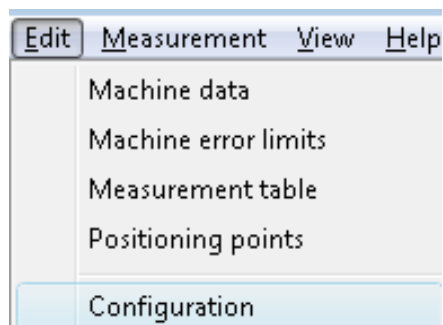

**FIG.5.8. COMPENSATION TABLE PREPARATION WINDOW**
**Compensation table preparation** (figure 5.8) is an option used after measurement finish (before start it is not enabled). From the end results the software calculates the errors and suggests the machine control the compensation values. Because different machine controls require different format of compensation file, thus in the compensation table preparation window the right data format has to be set together with options required in the chosen format.